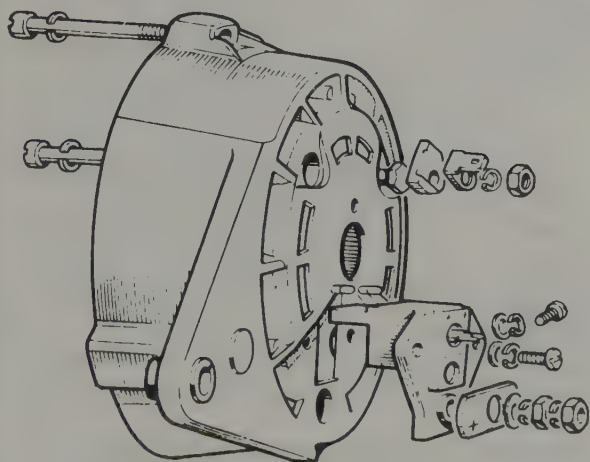

Fig. 10.7. Alternator (11AC) brush holder
- 2 Unscrew the nut "A" (Fig.10.7), the spring washer, 35 amp Lucar blade and plastic strip from the output terminal.